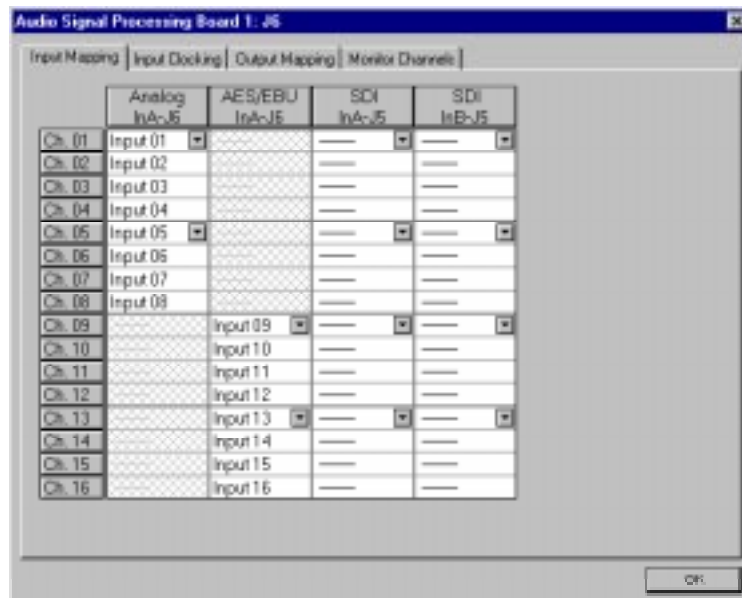

Figure 41. Audio Configuration dialog box, Input Mapping tab
The Audio Configuration dialog box shown in Figure 41 allows you to configure input and output channels, input clocking, audio quality and monitor channels.
The Input Mapping tab is used for mapping input sources to Profile channels, while the Output Mapping tab is used for mapping Profile channels to output destinations. For example, you can map Profile Audio Chassis (PAC) input sources and serial digital audio input sources. Figure 41 and Figure 42 illustrate a sample configuration: a Profile unit with an audio signal processing board, a PAC 208 chassis (with A/D and D/A converters and connectors for eight channels), and two serial digital cards providing eight analog audio channels, eight digital audio channels, and four video channels with 16 embedded audio channels each.
The columns represent the sources to the sixteen channels on the input side and the destinations from the sixteen channels on the output side. The examples in Figure 41 and Figure 42 illustrate the system with a PAC 208 chassis allowing the selection of analog channels 1–8 and digital channels 9–16. A PAC 216 chassis, however, provides sixteen analog inputs and outputs or sixteen digital inputs and outputs. For the PAC 208, rows 9 through 16 of the analog channel column, and rows 1 through 8 of the AES/EBU channel column, are cross-hatched to indicate that these channels are not selectable. In Figure 42, in the column labeled AES/EBU, rows 9–16 appear dimmed, indicating that this audio type is always mapped and cannot be unmapped. Attempting to remap this section results in an error message.
mapped to consecutive disk channels. For example, analog channels 1–4 (Input 01–Input 04) in the first column of Figure 41 are mapped to the first four disk recorder channels (Ch. 01–Ch. 04), while digital channels 9–12 (Input 09–Input 12) in Figure 42 are mapped to another four disk recorder channels (Ch. 09– Ch. 12).
1. Choose **Options | Audio Configuration Board 1 or 2** or click an ASPB Configuration button. The Audio Configuration dialog box appears (Figure 41).